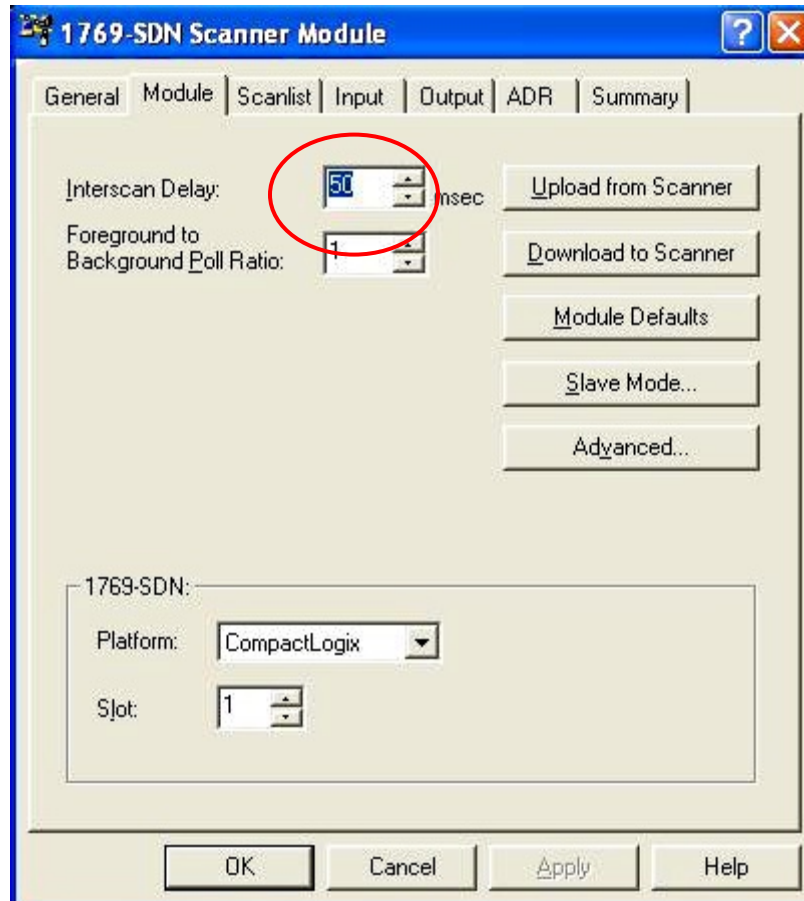

Figure 11 DNET Master Scanner Interscan Delay
- 6 Make sure that Controller Request Packet Interval on RSLogix5000 and DNET master Scan Interval for 1769-SDN Scanner matches (figures 11 and 12)